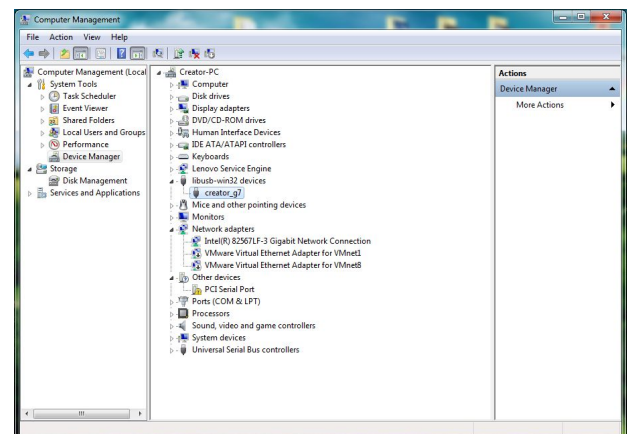

Figure 1-7
6. Click "Finish" to complete the installation of the touch screen driver, then the logo of Creator_g7 devices will appear in Device Manager, as shown in Figure 1-7: